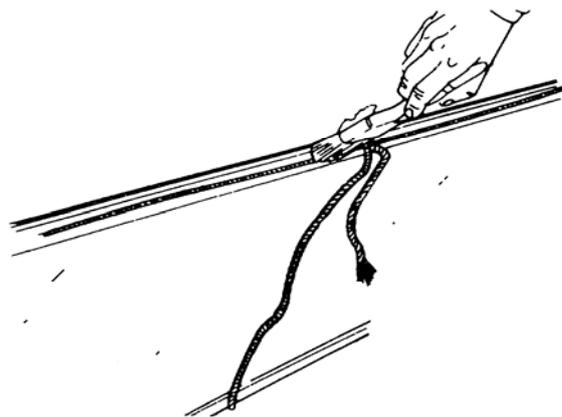

Figure 35 Rubber Seal – Applying Soap Solution
- h.** Using a solution of soap and water, lubricate the rope and rubber thoroughly (refer Figure 35).